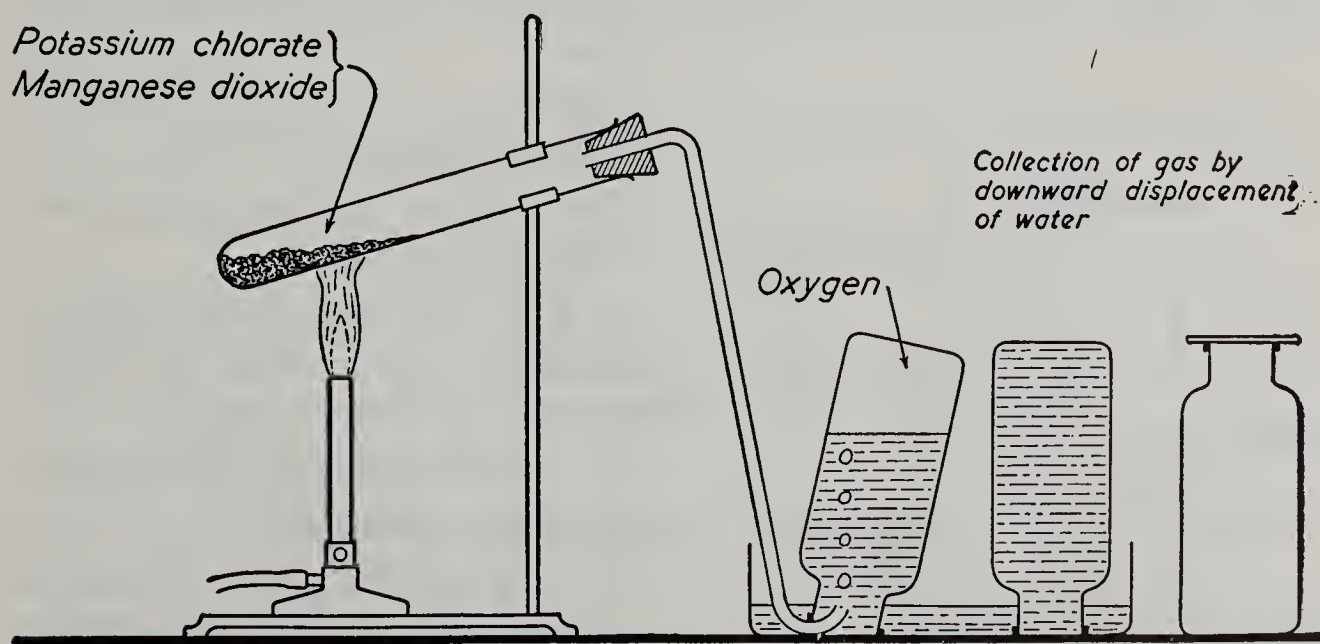

Fig. 22. The laboratory preparation and collection of oxygen.
2. Set up the apparatus as shown in Fig. 22. Before the gas bottles are placed in the pneumatic trough, fill each with water until the rounded upper surface of the water extends above the mouth. Slide a glass plate over the mouth of the bottle and hold it in this position until the bottle is inverted in the water in the pneumatic trough, and then remove the glass plate (TECH. 12).